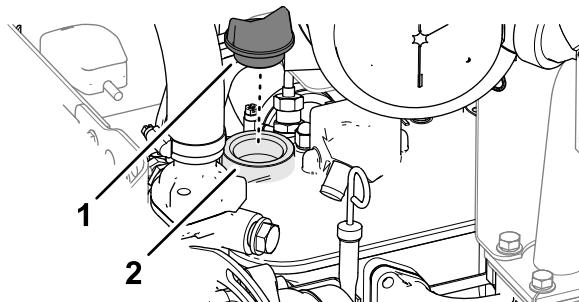

**Figure 64**
3. Remove the dipstick, wipe it clean, install the dipstick into the tube, and pull it out again. The oil level is correct when it is between the FULL and ADD marks (Figure 64).
4. If the oil level is low, remove the fill cap and add oil until it is between the FULL and ADD marks (Figure 64).